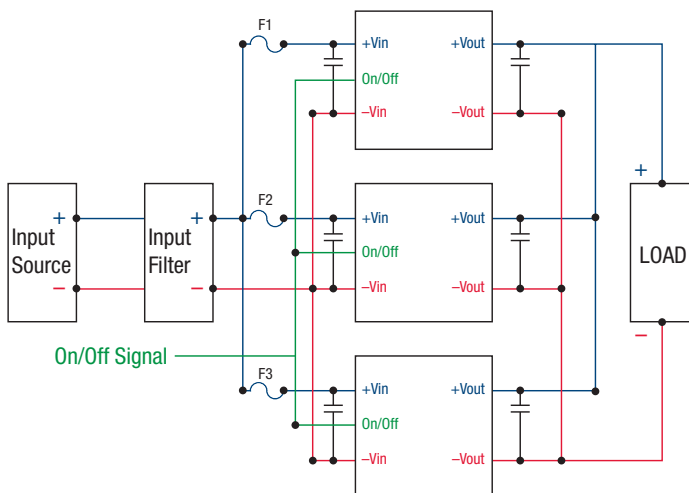

Figure 2. Load Sharing Block Diagram
Two or more converters may be connected in parallel at both the input and output terminals to support higher output current (total power, see figure 2) or to improve reliability due to the reduced stress that results when the modules are operating below their rated limits. For applications requiring current share, follow the guidelines below. See specification table for Output Voltage set points. The stated output voltage set point is trimmed to a very narrow range ($11.7V \pm 10mV @ 48Vin$, 50% load). The output voltage will decrease when the load current is increased. Our goal is to have each converter contribute nearly identical current into the output load under all input, environmental and load conditions.
- It is required to use a common Remote On/Off logic control signal to turn on modules (see figure 2).